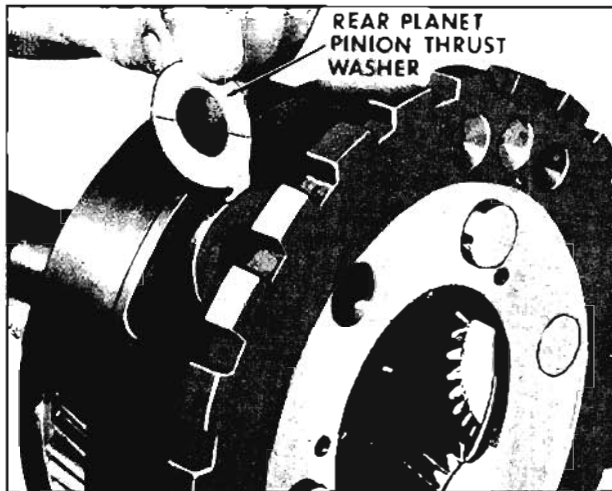

Fig. 6-403 Installing Rear Planet Pinion Thrust Washer
9. Install the rear planet pinion thrust washer. Oil groove must be toward pinion gear. (Fig. 6-403)